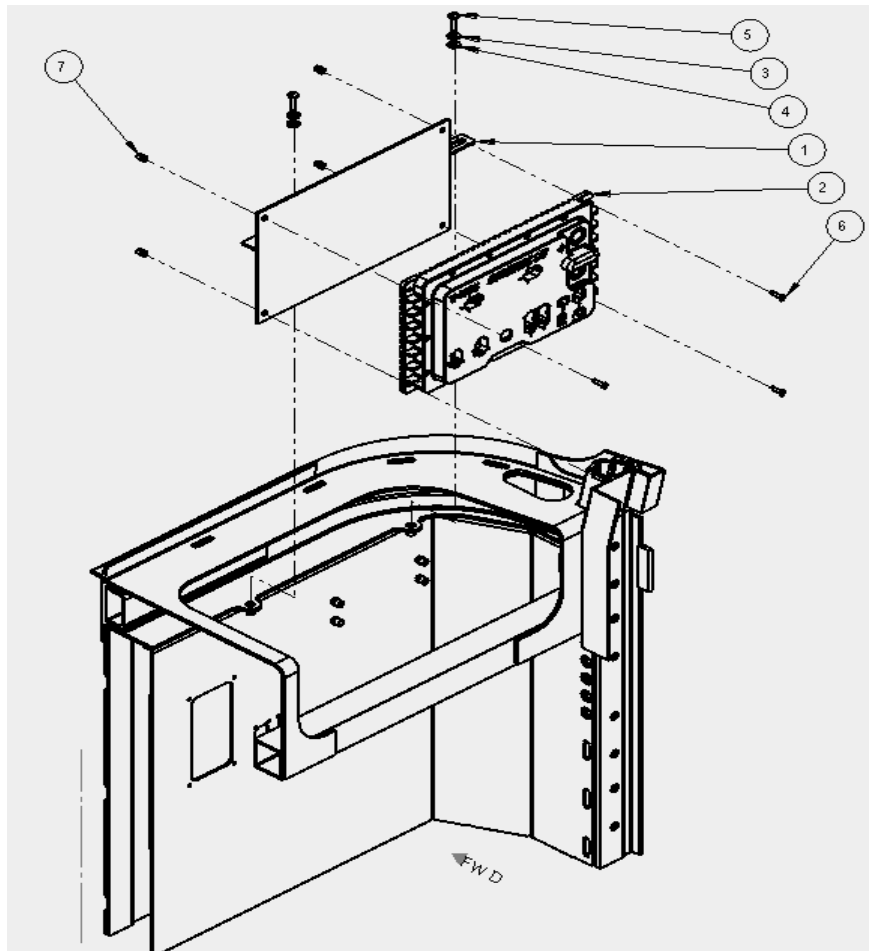

Figure 5.1
14) Remove the 4 fasteners holding the HC node in place. Refer to **Figure 5.1**